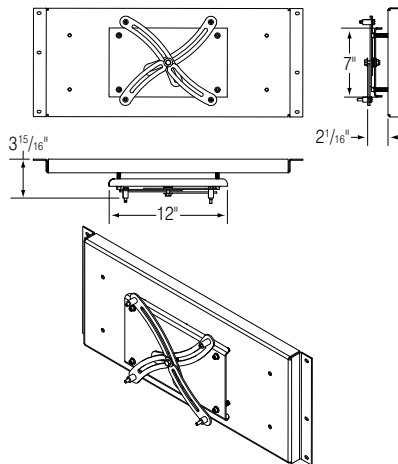

Figure 3
1. Determine which size mounting bolts suit your projector, and set others aside. They are no longer required. If your projector has only three mounting holes, set aside one of the mounting arms (see Fig. 3).